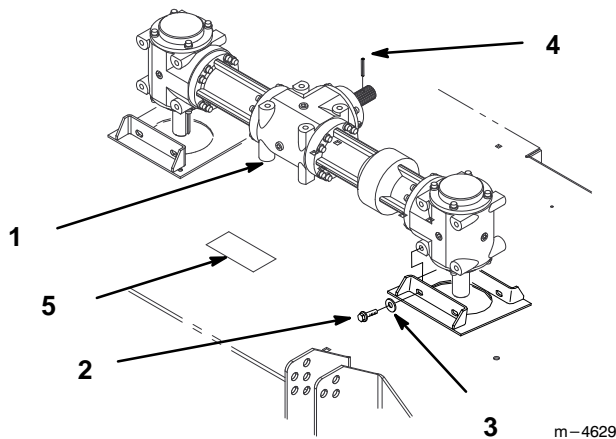

Figure 1
1. Place new gearbox on deck. The vertical output shafts should be centered in the two cone-shaped recesses in the top of the deck (Fig. 1).
3. Insert bolts, with washers, through mounting brackets and into gearbox mounting holes (Fig. 1). Torque mounting bolts to  $260 \pm 25$  in-lbs.